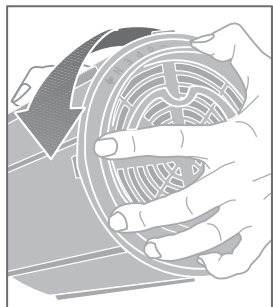

fig 9
- Remove the filter media container and open it by unscrewing the cover in an anticlockwise direction -Fig. 9-. If the product is supplied with filter media, it will be located inside the container.
- Pull out the filter media container by its handle and open by unscrewing the cover -Fig. 9-.